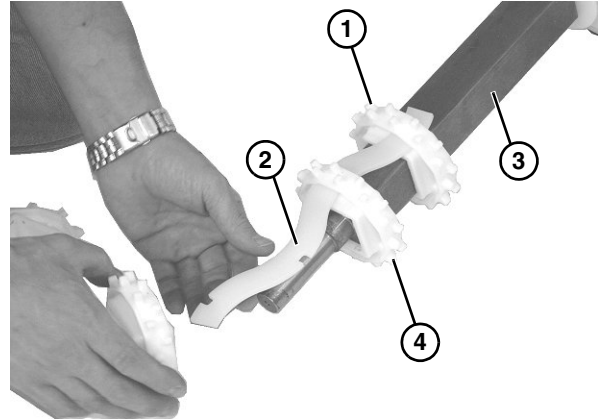

Figure 30
12. To assemble sprockets onto drive spindle, slide one sprocket (**Figure 30, item 1**) onto alignment bar (**Figure 30, item 2**) and slide assembly onto drive spindle (**Figure 30, item 3**).
13. Install second sprocket (**Figure 30, item 4**) and subsequent sprockets one by one, while sliding entire assembly onto alignment bar and spindle.